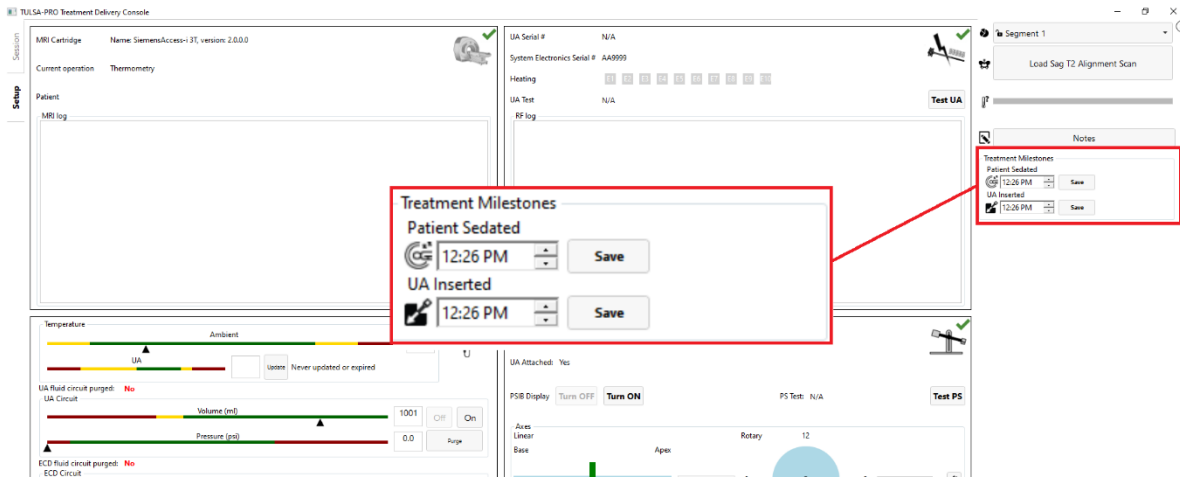

Figure 28: Entering Treatment Milestones in the TDC Setup Workspace
1. In the TDC *Setup* Workspace, enter the sedation and UA insertion times under **Treatment Milestones** (Figure 28).